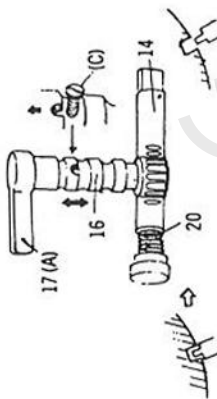

Fig. 7
4. In the indexing procedures, first lay down the clamp handle 7 to the left, unclamp the table, pull the pinion handle 17 toward yourself, and remove the index pin 14 from its position (groove). Then press the handle 17 downward (Figure 7 on Page 4).
5. While the pinion shaft 16 is pressed down in this way, the head of set-screw (C) consequently enters into the pinion shaft, whereupon the shaft 16 no longer rotates. At that time, the index pin 14 will remain in a state where it has been pulled out of a groove on the master index plate.